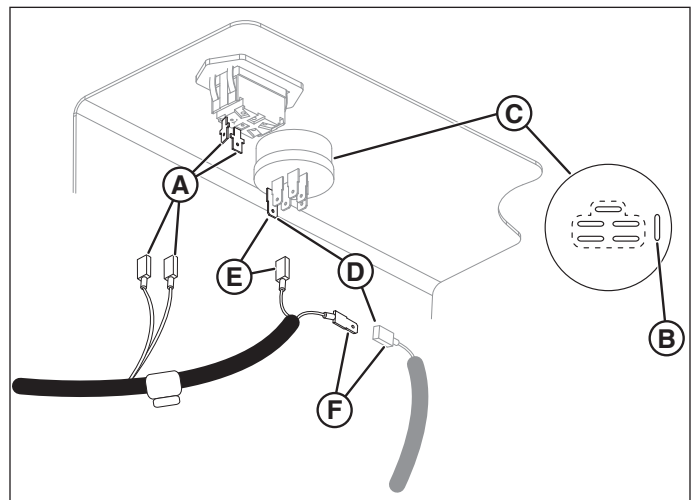

Figure 4. Instrument Control Panel Connection Points
9. Make the connection between the two (2) female leads on the headlight wire harness and the headlight switch (A, Figure 4).
10. Check your unit to see if there is a connection between the main harness terminal "A" (B) of the ignition switch (C).